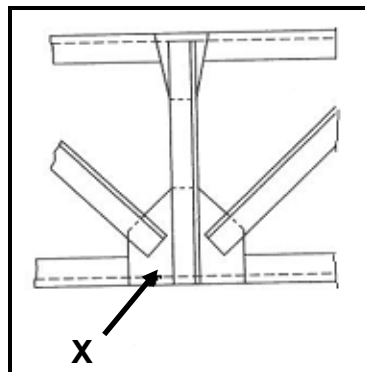

FIGURE 4.2
- 4.2 FIGURE 4.2 below shows a roof truss. Identify component X.